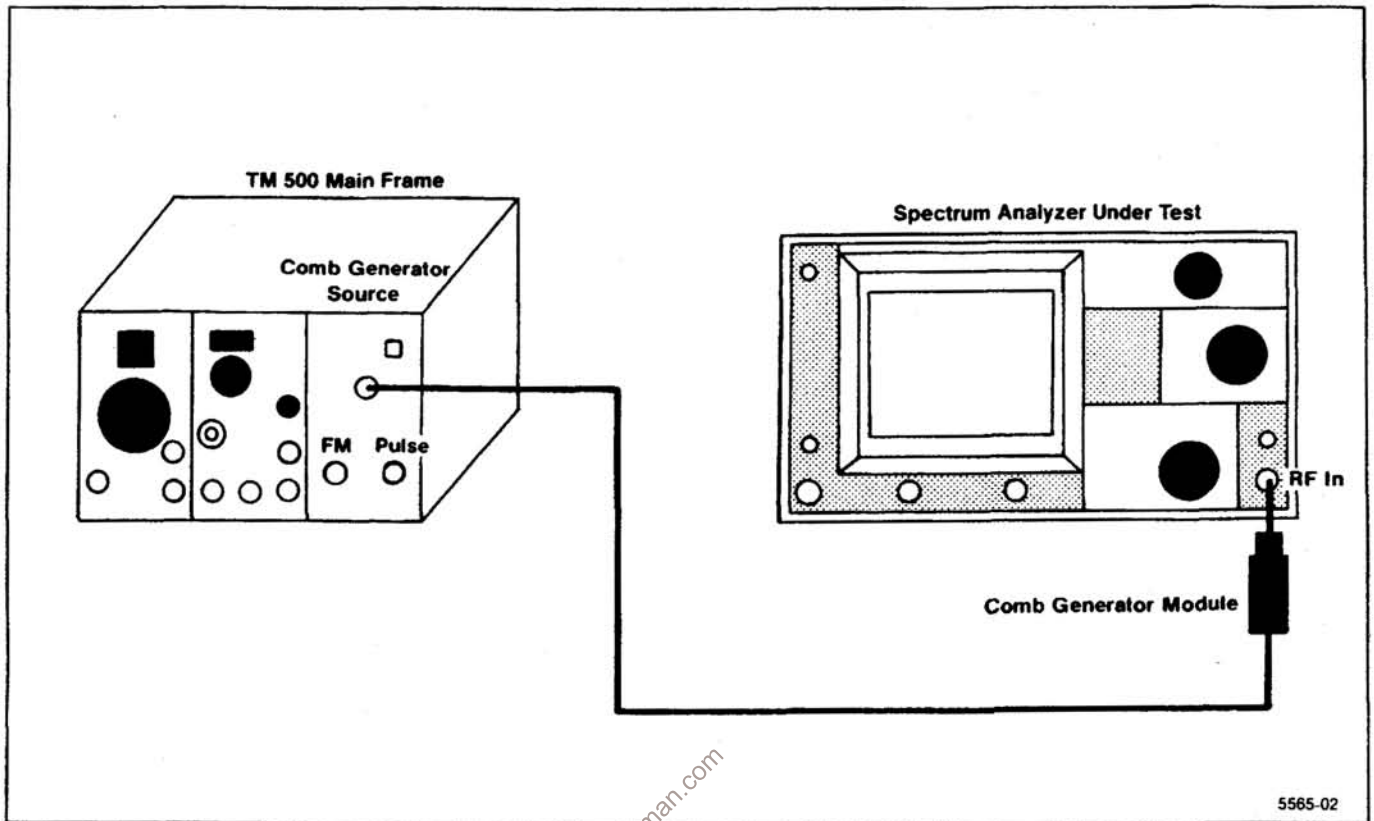

Figure 4-3. Test equipment setup for checking center frequency accuracy.
c. Connect the test equipment as shown in Figure 4-3.